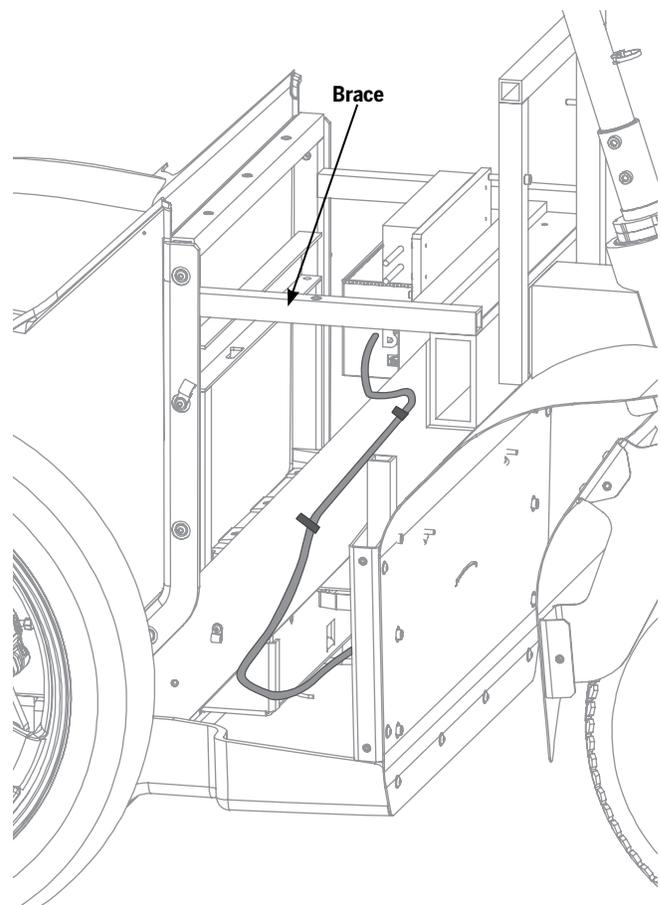

Figure 182: Siren Harness Routing
3. Route the harness under the horizontal brace on the frame. See **Figure 182**.